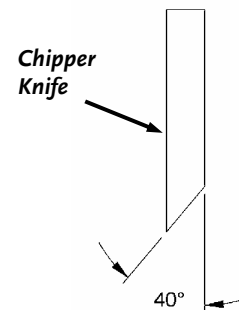

Figure 42
- It is extremely important to consistently maintain the 40-degree angle for proper performance (**Figure 42**).